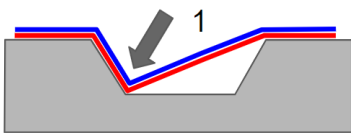

Fig.3
- 3) Press down using your fingers into the deepest part of the corrugation and take care to obtain 100% contact between the film and the surface. Heat any areas that have not yet come into contact with the substrate and gently follow the form with the fingers. The use of slightly wet hand gloves will make this process easier (always keep temperature between 35°C and 50°C during this step). *Fig.3*